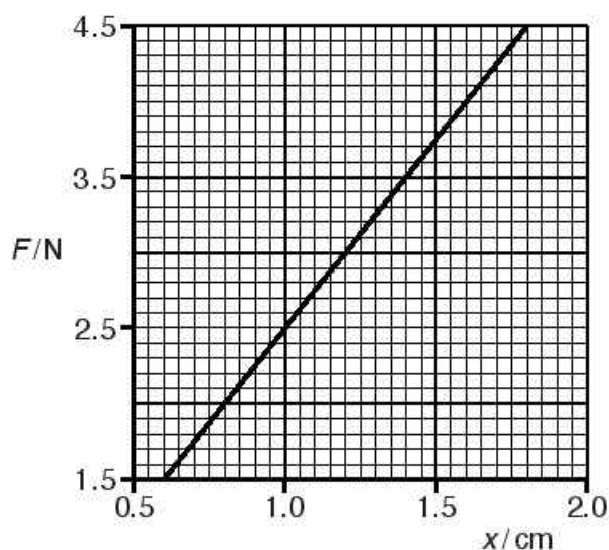

Fig. 4.2
Point A is on a movable slider and point B is on a fixed support. A cart of mass 1.7 kg has horizontal velocity v towards the slider. The cart collides with the slider. The spring is compressed as the cart comes to rest. The variation of compression x of the spring with force F exerted on the spring is shown in Fig. 4.2.
Fig. 4.2 shows the compression of the spring for $F = 1.5\text{ N}$ to $F = 4.5\text{ N}$. The cart comes to rest when F is 4.5 N.
- (a) Use Fig. 4.2 to